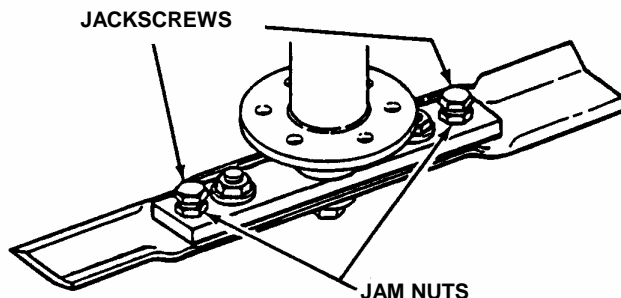

FIGURE 4.6
- b. Adjust jack screws "IN" or "OUT" until blade tip measurements are within $\frac{1}{16}$ " of each other and blade tips are $\frac{3}{8}$ " away from deck lip. See Figure 4.6.